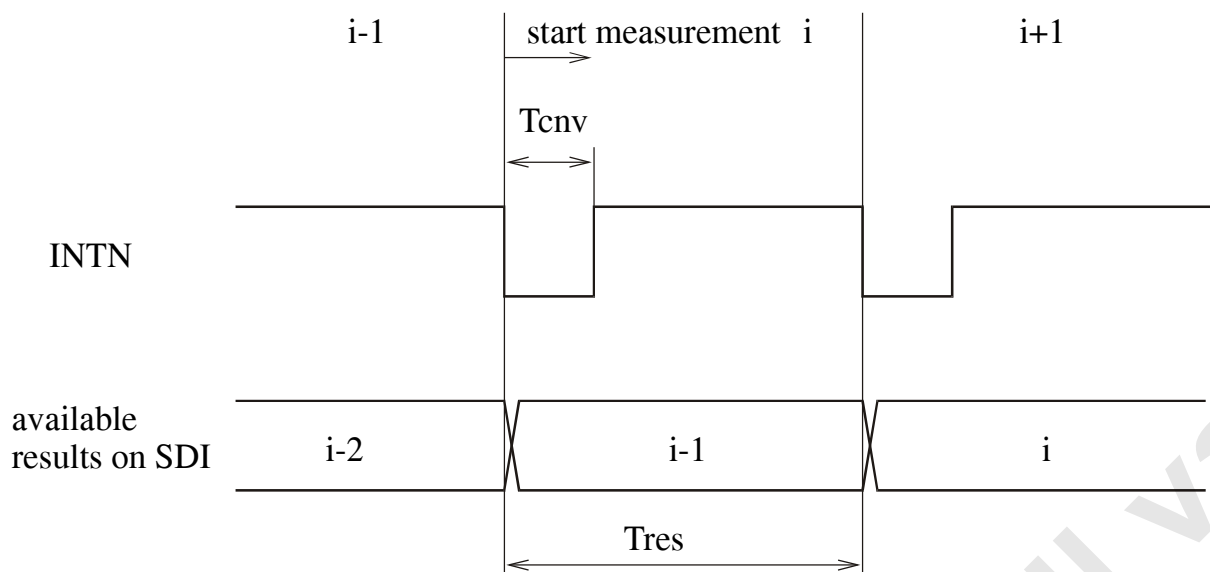

Figure 9: INTN pin in modes 1 and 2
- ²⁾ In measurement modes (MMS and MMD) the INTN pin is used to synchronize the SDI bus operations (See Fig. 9). The trailing edge of INTN signals the start of a new measurement.